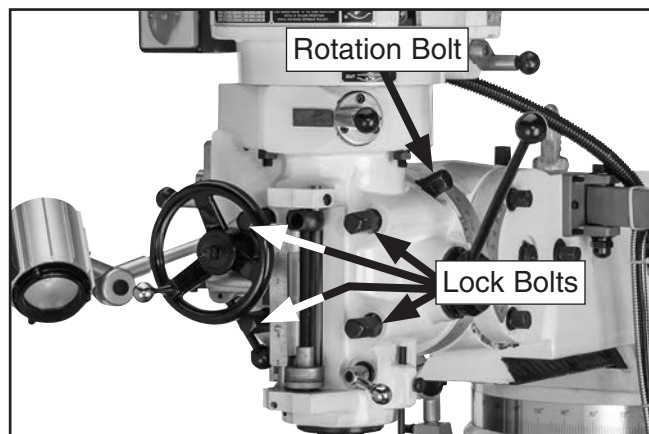

Figure 34. Head rotation controls.
2. Loosen four lock bolts shown in **Figure 34**.
3. Use one hand to apply pressure to head in direction of rotation, then slowly turn rotation bolt shown in **Figure 34**.
Note: The lock bolts shown in **Figure 34** are threaded into T-nuts that travel in a circular slot during head rotation. When rotating head, it is possible for these T-nuts to jam in the slot preventing movement of head. If this happens, gently rotate each lock bolt, starting with the lower right, until you free up the jammed T-nut. Then continue to rotate head to desired position.